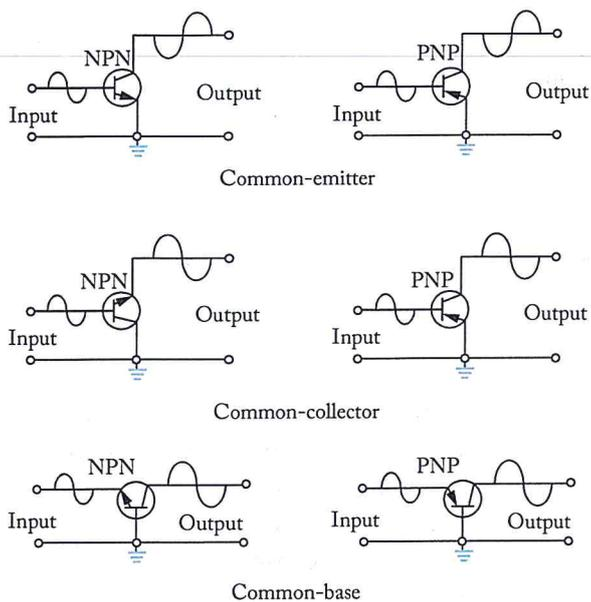

Figure 1-68. Transistor configurations (common-emitter, common-collector, common-base).
A transistor may be connected in one of three different configurations: common-emitter (CE), common-base (CB), and common-collector (CC). **[Figure 1-68]** The term "common" is used to indicate which element of the transistor is common to both the input and the output. Each configuration has its own characteristics, which makes each configuration suitable for particular applications. A way to determine the configuration is to first find which of the three transistor elements is used for the input signal and which element is used for the output signal. At that point, the remaining element,